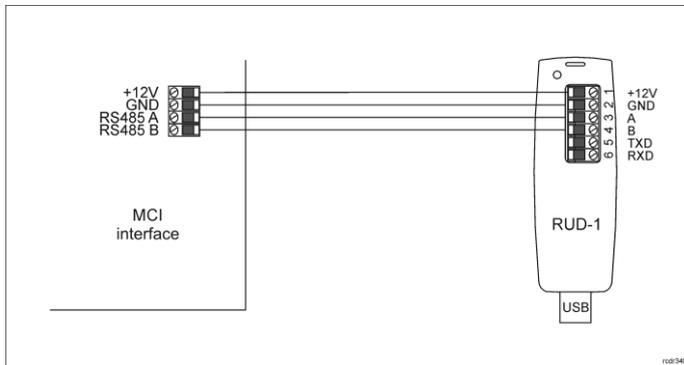

Fig. 1 Connection of the MCI-3 to RUD-1 interface for configuration
1. Connect the device to RUD-1 interface (fig. 1) and connect the RUD-1 to computer's USB port.